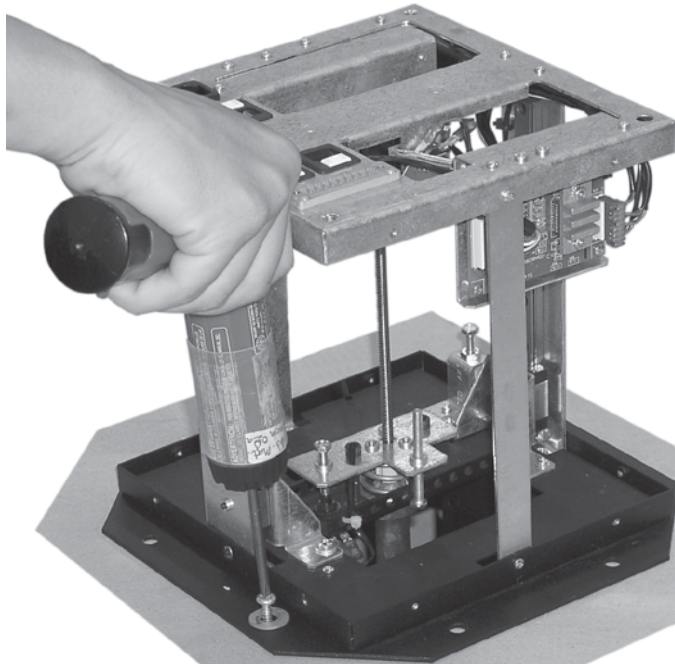

Figure 2-7 — Securing the HSA to the table
1. Place the HSA upside-down over the table. Using the eight provided #8-32 wood screws and #8 washers, secure the HSA to the underside of the table (figure 2-7). Leave the screws slightly loosened for adjustment.
7. Tighten the eight #8-32 wood screws that secure the HSA to the underside of the table (figure 2-7 on page 2-8).